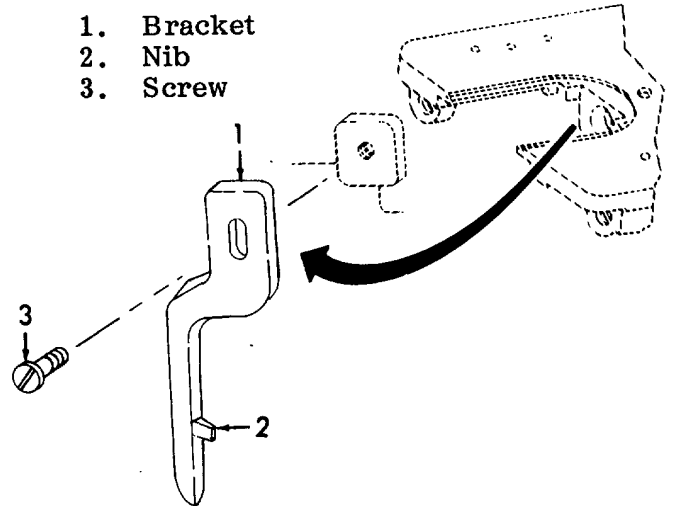

Figure 6-55. Bobbin Case Positioning Bracket, Installation.
- (16) Install the screw (4) and nut (5). Check for free movement of the shaft against the arm.
- (17) Install both shaft centering screws (6). Tighten the shaft centering screws (6) until the end play on the shaft is gone but the shaft still moves freely.
- (18) Tighten the locknuts (7). Recheck the shaft end play and shaft rotation.
(19) Refer to Figure 6-55. Install the bobbin case positioning bracket (1) so that the bracket nib (2) catches the slot in the rotary hook.
(20) Install the screw (2).